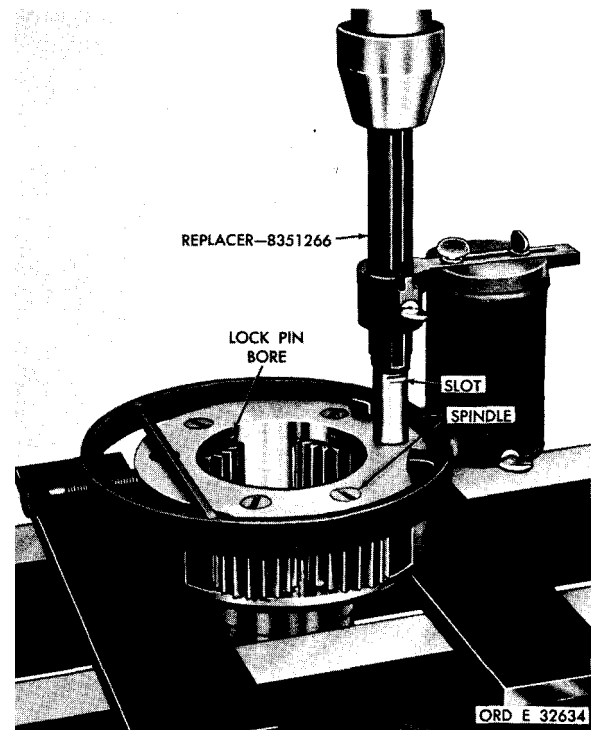

Figure 217. Installing planetary carrier spindle
h. Slide the pinion and its related parts into the location in the carrier from which it was removed (fig. 217). Using alining tool 8351208, align the pinion, washers and rollers. Remove the alining tool.
i. Install spindle replacer 8351266 on the planetary carrier and position the spindle for installation (fig. 217).
Note. Be sure that the slot on the spindle is indexed properly with its lock pin bore in the carrier (fig. 217).
j. Using a press and spindle replacer 8351266, install the planetary carrier spindle (fig. 217). The spindle replacer will bottom against the carrier when the spindle is properly positioned in the carrier.